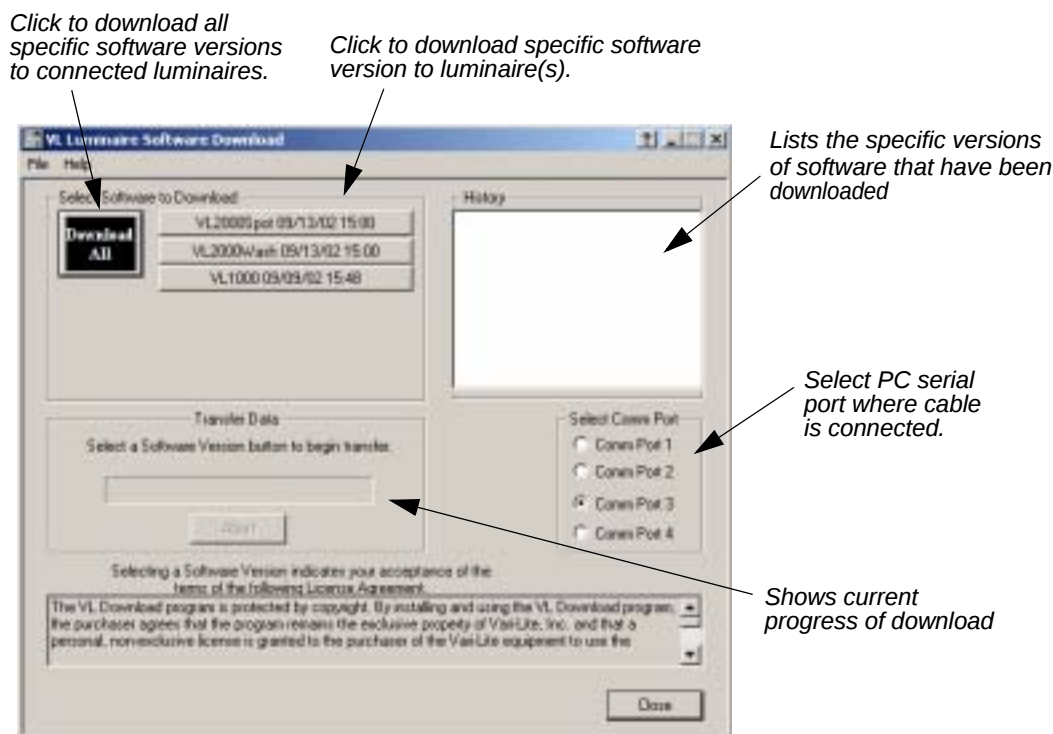

Figure 3-2: Download Interface Window
- Step 6. At Select Comm Port section of window (refer to Figure 3-2 on next page), select serial Comm Port (Comm Port 1, Comm Port 2, Comm Port 3, or Comm Port 4) where *Serial Straight Thru Cable* is connected.